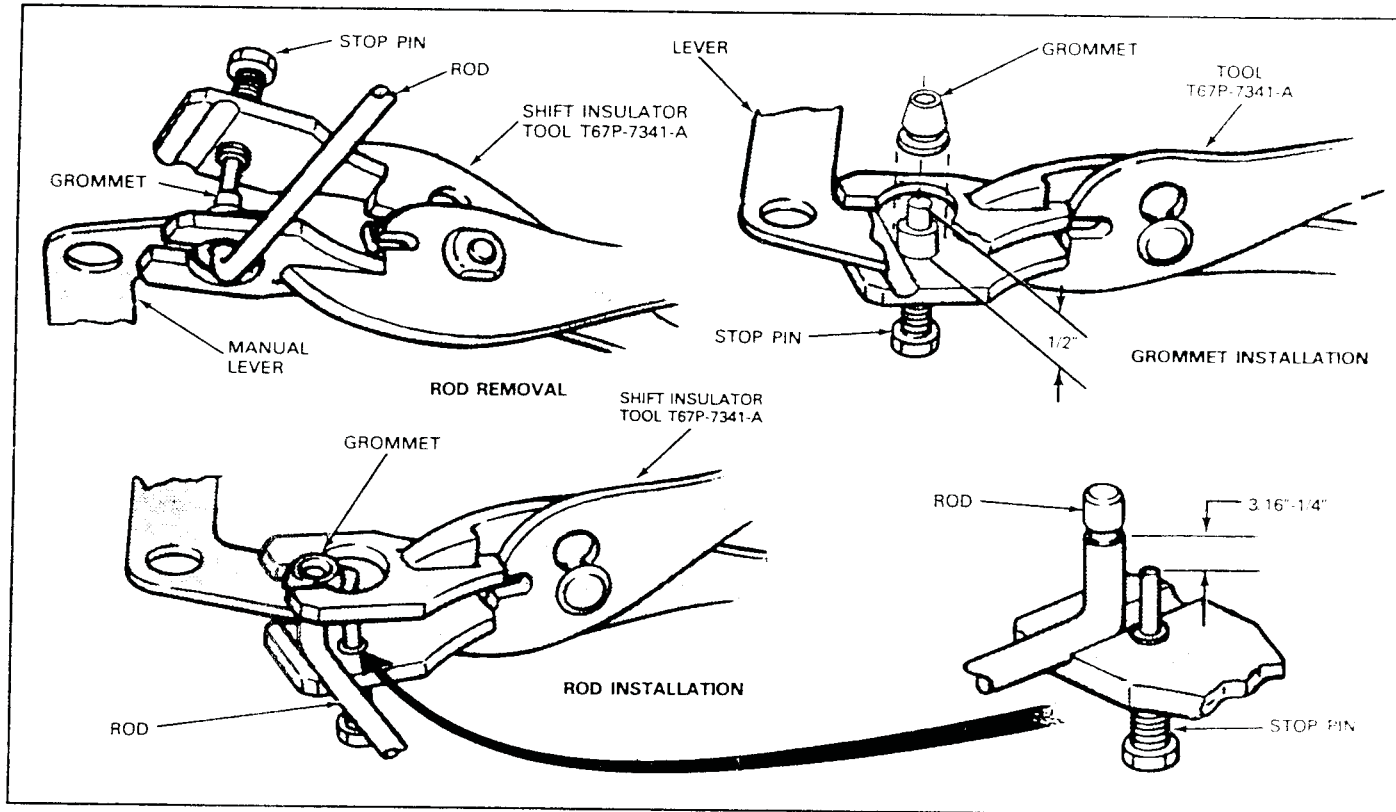

FIG. 9 Removing or Installing Shift Linkage Grommet
1. Place the lower jaw of the Shift Linkage Insulation Tool, T67P-7341-A or equivalent between the lever and the rod (Fig. 9). For areas with limited space, use Shift Linkage Grommet Remover, T84P-7341-A or equivalent for removal of the grommet (Fig. 10). Position the stop pin against the end of the control rod (Fig. 9) and force the rod out of the grommet. Remove the grommet from the lever by cutting off the large shoulder with a sharp knife. **The grommet must be removed from the lever and a new one installed each time the rod is disconnected.**
3. Readjust the stop pin to the height shown in Fig. 9. The pin height is determined by the length of the rod end which is to be installed into the grommet. If the pin height is not adjusted, the rod may be pushed too far through the grommet causing damage to the grommet retaining lip.